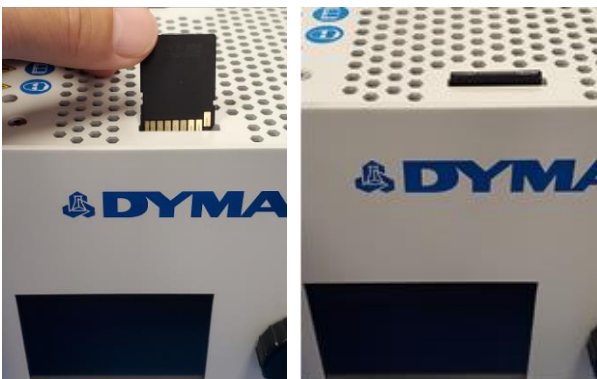

Figure 1. Insert the SD Card
5. Insert the SD card with the contact side face to front of the BlueWave® AX-550 as shown in Figure 1.